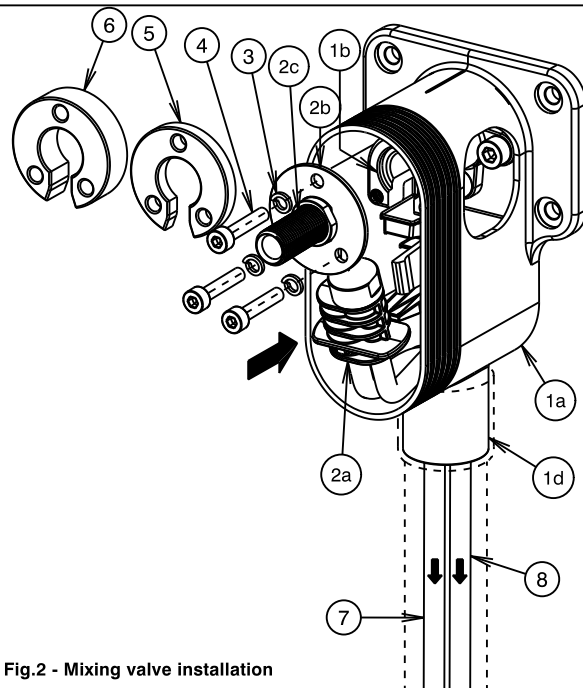
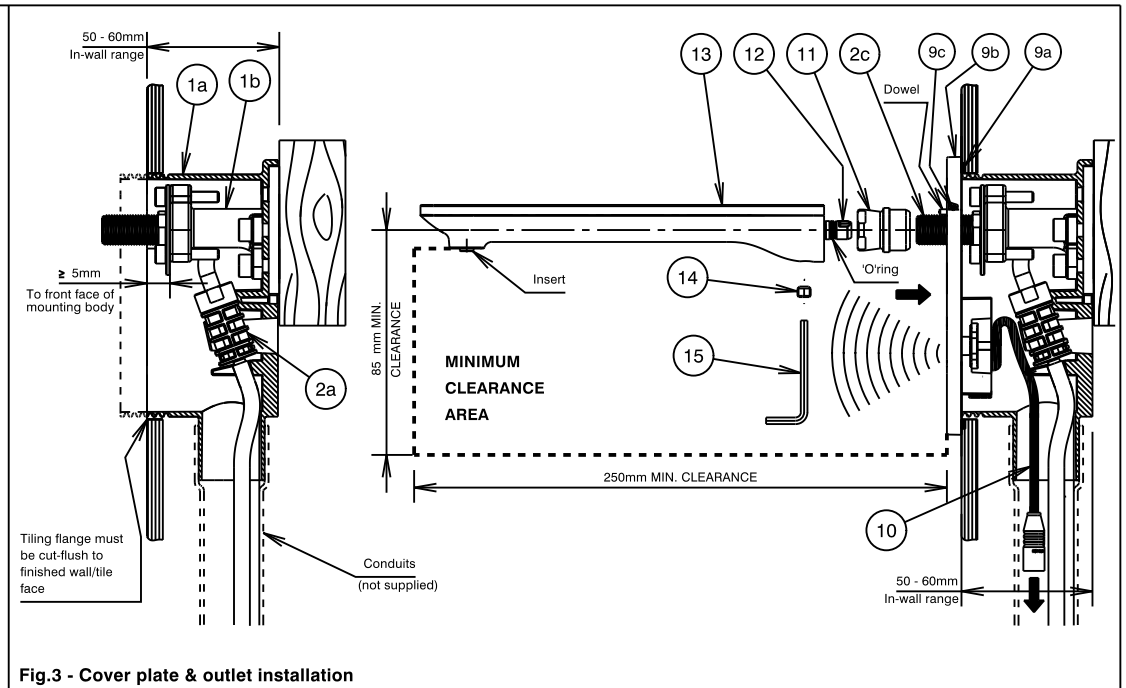
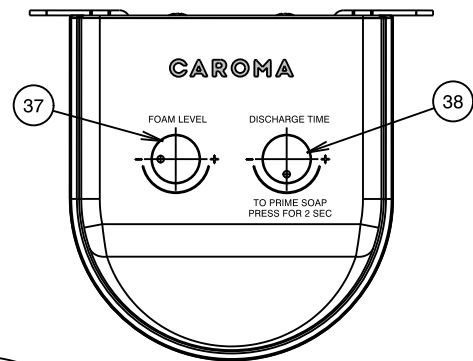

Fig.2 - Mixing valve installation
Fig.3 - Cover plate & outlet installation
Fig.10 - Soap control unit functions
- * Sensor beam must not be obstructed within the range shown in Fig. 3. The outlet must be positioned high enough from the basin to clear this.
- * Trim kit (2-38) and body kit (1) are supplied separately.
- * Only water based foam soap must be used. Use of non-foam liquid soap may cause blockage and damage the system. The foam level knob(37) can be turned towards (+) or (-) to increase or decrease the air amount until a smooth and consistent foam is dispensed. Fig. 10
- * Soap control unit must be primed before first use and after every refill. Follow priming instructions, as shown in Fig.10.
- * The soap control unit (16) is mains powered only. Separate battery box (25) is supplied which can be used as a battery backup.
- * The soap tube (7), air tube (8) and sensor cable item (10) in the trim kit are 1.5m long.
- * Connection point (1d) is provided for terminating standard 25mm electrical conduit upto the control unit (16) mounted in front of the wall.
- * The allowable in-wall range from finished wall/tile face to the noggin is 50 - 60mm, Fig. 3.
- 2) Check that the tiling flange on the housing (1a) is flush with the finished wall/tile face, Fig. 3. Cut if required.
- ii) Check that the front face of the mounting elbow(1b) is at least 5mm from the front of finished wall/tile face (See Fig. 3). 5mm spacer (5) & 10mm spacer (6) are provided to bring the outlet forwards if required. Spacers (5) or (6) can be placed between item (2b) and body (1b), see Fig. 2.
- iii) Insert the soap & air tubes (7) & (8) into the housing (1a) and pass them through the hole of connection point (1a) as shown in (Fig. 2). Wire draw/fish tape can be used by carefully tying it to the tubes and pass through the conduits (not supplied) until the tubes come out at the open end. Do not pull the soap tubes out forcefully. Place the mixing valve (2a) inside the housing as shown in (Fig. 2 & 3).
- iv) Fit the spring washers (3) onto the 3 screws (4).
- v) Align the 3 holes on the flange (2b) with the holes on mounting body (1b), insert screw (4) along with washer (3) through the flange (2b) and into the threaded hole in body (1b). Then fit the remaining screws in remaining 2 holes in similar manner and tighten using 3mm allen key.
- vi) Ensure foam seal (9a) & 'O'ring (9c) fitted on to wall cover plate (9b), insert black sensor cable (10) from the cover plate (9) into housing(1a) and pass it through the hole of connection point (1d) as shown in (Fig. 3). Continue feeding the cable through the conduits(not supplied) until the black cable end comes out the open end in front of the wall. Slide cover plate (9) over threaded nipple (2c), position the cover plate by keeping the sides vertical, push wall cover plate (9) firmly against the wall/tile face. Screw the adaptor (11) onto threaded nipple (2c), using a wrench tighten it untill the cover plate (9) is held securely against the wall/tile face as shown in (Fig. 3). DO NOT OVERTIGHTEN.
- vii) Ensure the 'O'ring fitted onto the outlet tube (12), align two holes behind the outlet (13) with two dowel pins on wall cover plate (9), position the outlet spout insert vertically pointing down as shown in (Fig. 3). Tighten grub screw (14) using allen key 2.5.